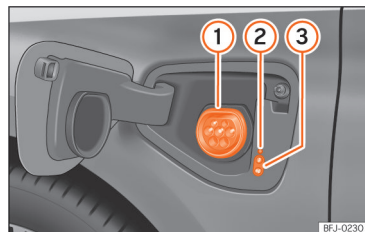

Fig. 55 Behind the battery charging cover on the front left-hand side: Charging socket
>>> Fig. 55
- With the vehicle unlocked, the battery charging cover opens when it is pressed »» Fig. 55.